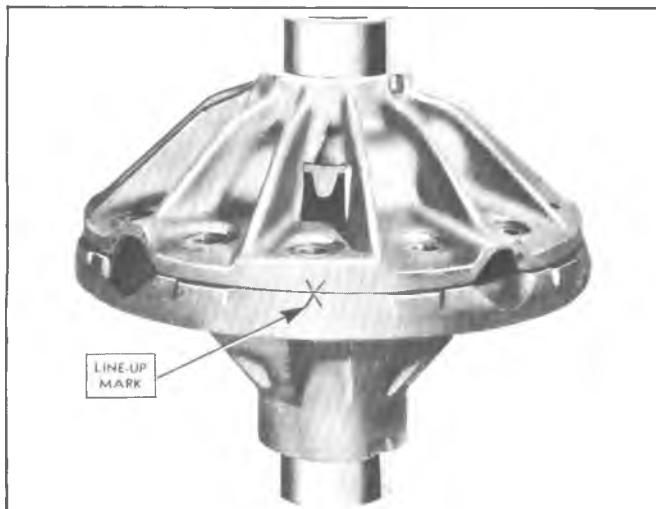

Fig. 6G-Differential Case Line-Up Marks
1. Check differential case to make sure that the two halves are marked so they may be reassembled in same relation. See figure 6G.